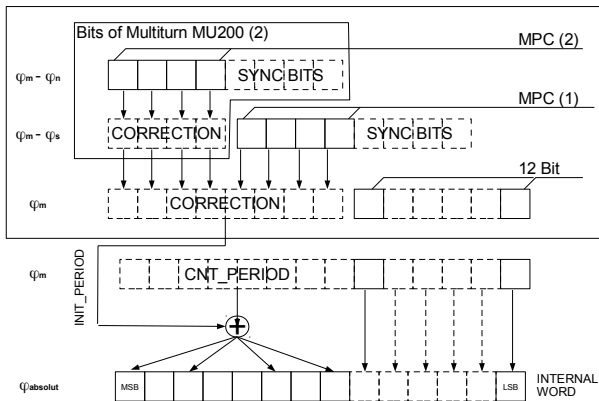

Figure 44: Principle of the synchronization of a 3-track nonius system using 2 iC-MU200 without further multitrurn data
Figure 44 shows the principle of the synchronization of the data from iC-MU200 (2) to iC-MU200 (1).